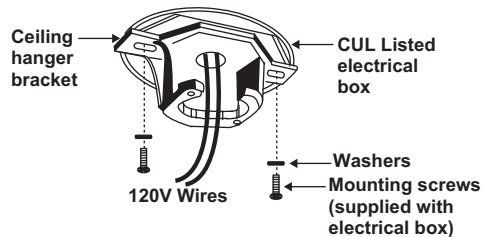

Figure 8
Step 3. Pass the 120-volt supply wires through the center hole in the ceiling hanger bracket as shown in Fig. 8.